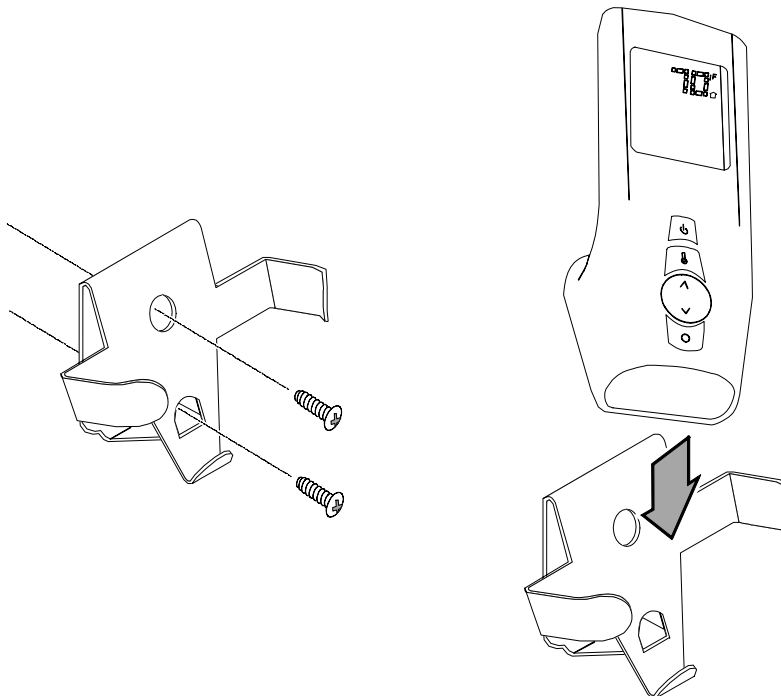

Figure 29
- 20 A wall mount is included with this kit for the remote. It may be mounted to the wall for easy access and storage. Use the included drywall anchors (and screws) to secure it to the wall (see Figure 29).